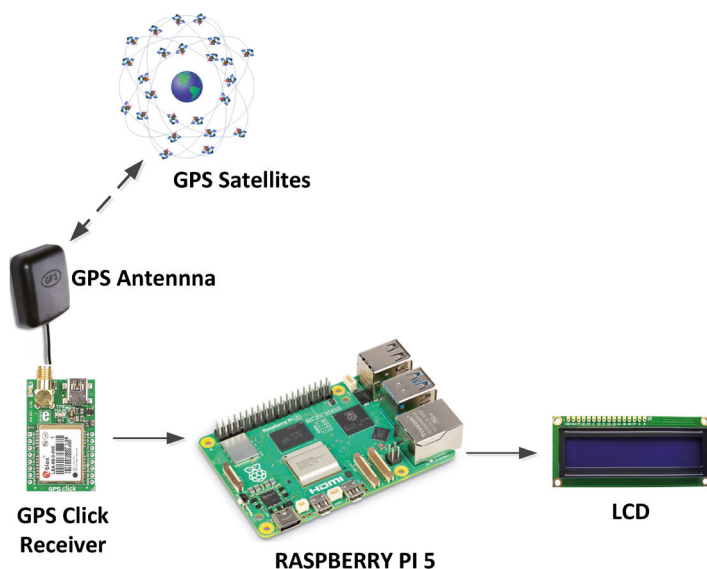

Figure 4.23: Block diagram of the project.
**Block Diagram:** Figure 4.23 shows the block diagram of the project. An I2C LCD is used to display the latitude and longitude of the station.